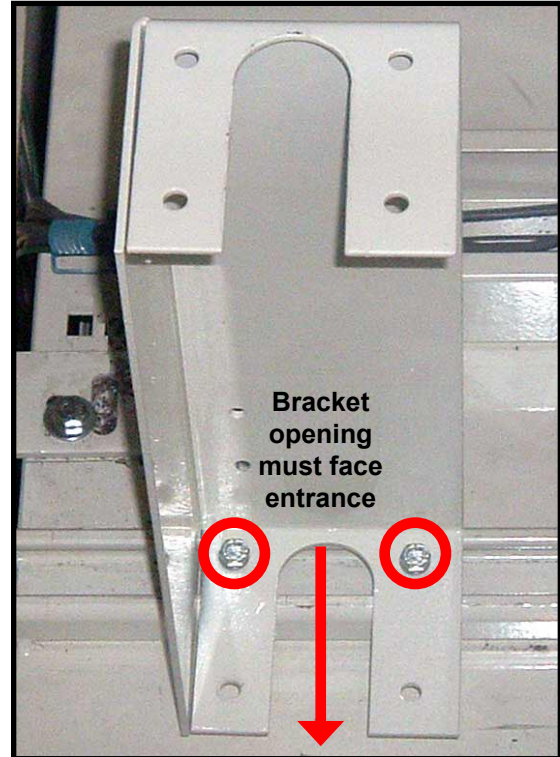

Figure 93 Mounting Bracket
- 2) Secure the mounting bracket (PN 251726) to the spring clips with  $\frac{1}{4}$ " bolts and lock washers (QTY 2 ea.) as circled in Figure 93.